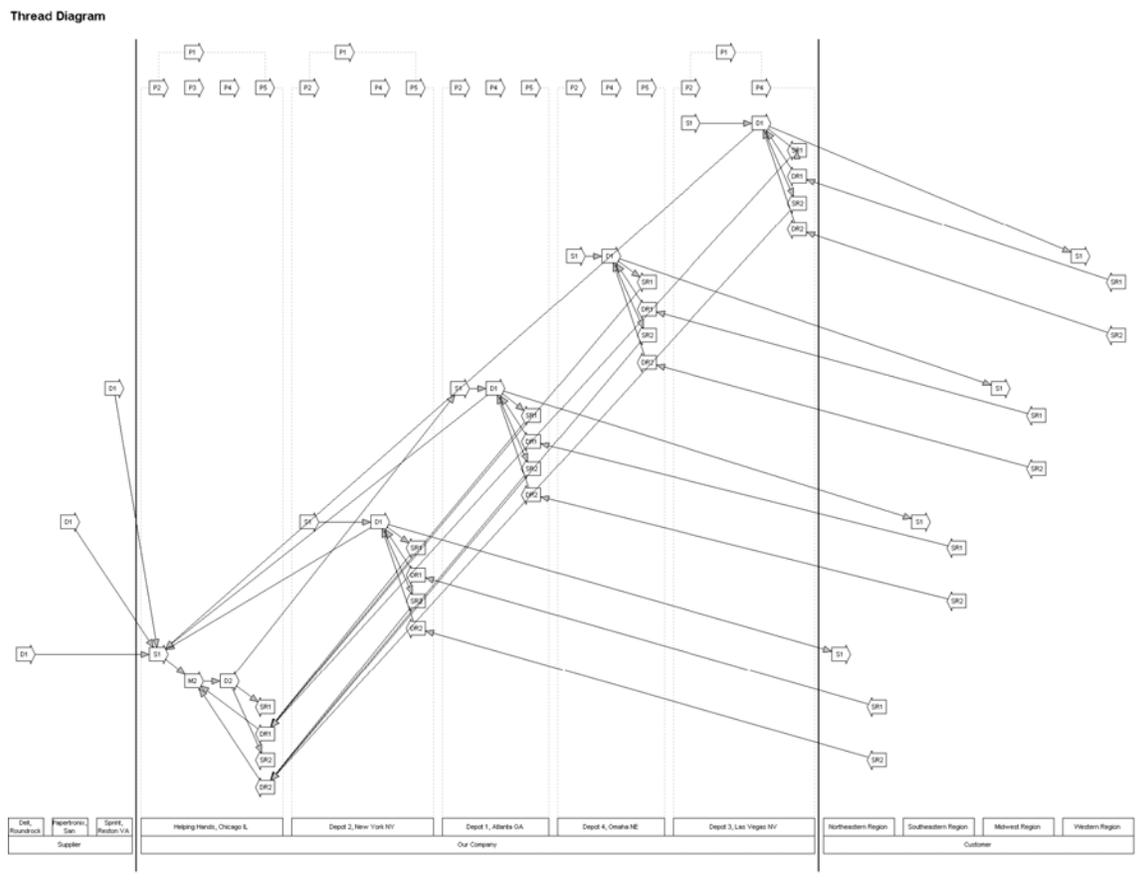

Figure 6. Transform the geographic map to a SCOR thread diagram to visualize the end-to-end flow of material.
- 8) Transform the geographic map to a SCOR thread diagram to visualize the end-to-end flow of material. (Figure 6)